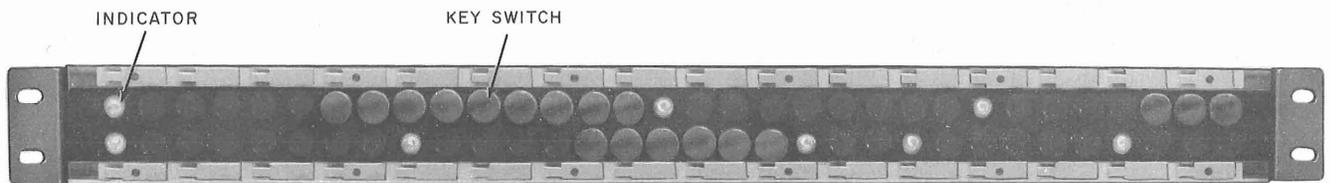

Fig. 6—Key and Lamp Panel
(a) Install 47A lamp holders and 547B key switches on the key and lamp panel (Fig. 6) as required. It is recommended that the lamp and key switches associated with a data set 115A be located adjacent to each other with the lamp in the left-most position (when viewed from front panel).
- (a) Loosen machine screws at each end of retaining bar (Fig. 6).